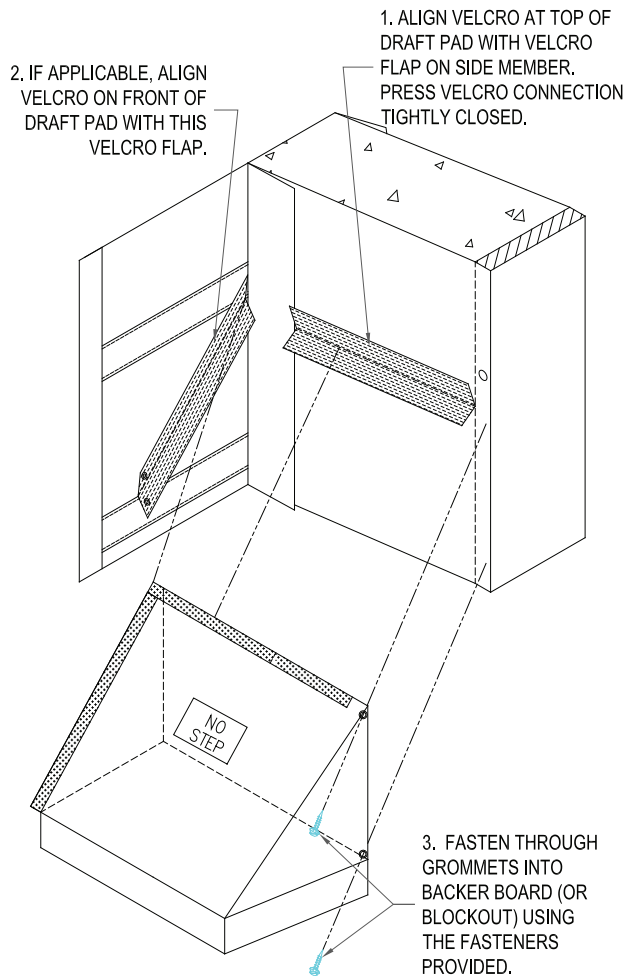
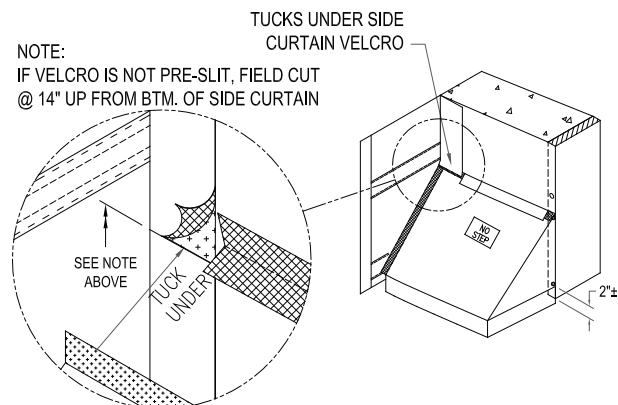

Figure 2
Figure 3
2. Fasten through grommets into backer board using the fasteners provided. See Figure 2.
- 3A. If there is not a velcro attachment flap on the back of the side curtain as shown in Figure 2, secure front edge of draft pad as shown in Figure 3. Installation is then complete.